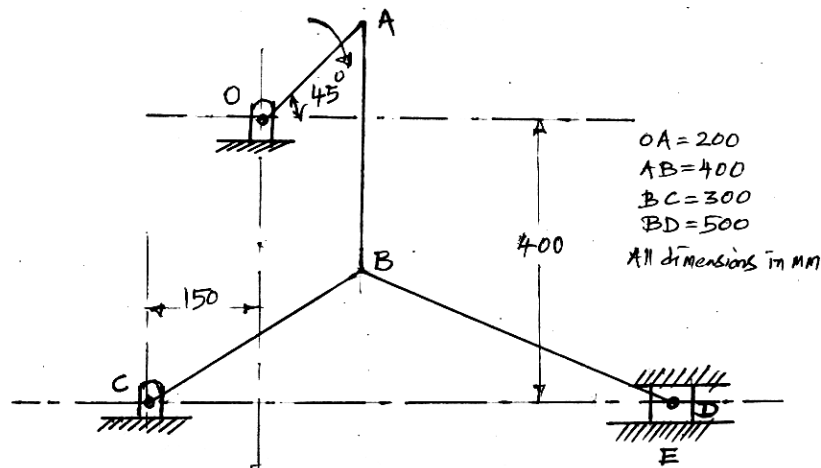

Fig. 5.
5. Determine the angular velocity of link AB , BC and BD . Also find the angular acceleration of links BC and BD and linear acceleration of slider 'D' for the given mechanism shown in Fig. 5. The crank rotates at 200 rpm.